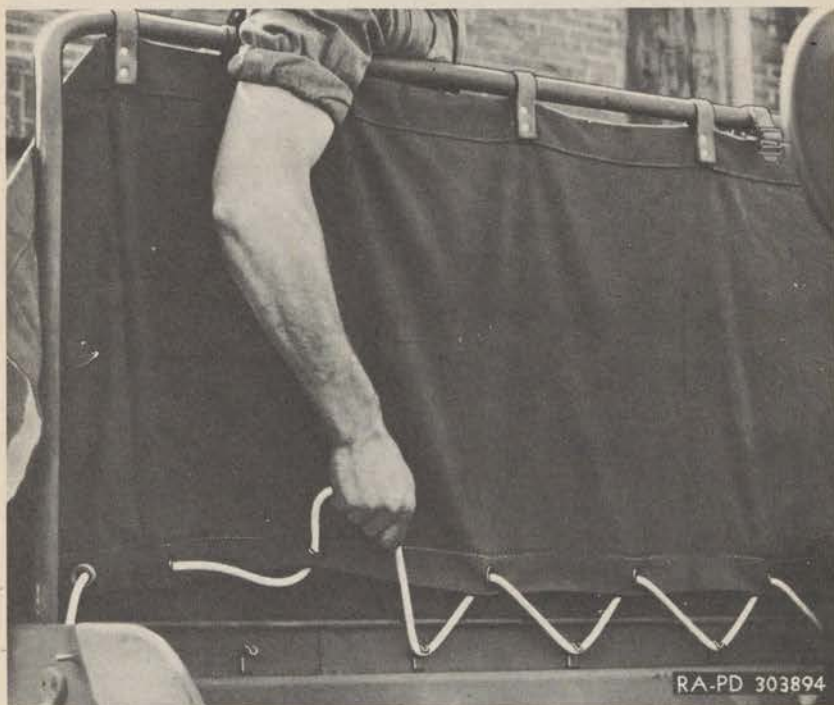

Figure 201—Lacing Rear Tarpaulin to Cab Rear Panel
(3) **ROLL UP REAR TARPAULIN.** Untie each end of the rope, lacing the back tarpaulin to the hooks along the top of the rear cab panel, then slip the rope loose from each hook (fig. 201). Disconnect the strap and loop fasteners holding the bottom corners of the tarpaulin to the
(2) **INSTALL CAB REAR TARPAULIN.** Unstrap the roll-up straps holding the rear tarpaulin to the top of the support tube, and unfold the canvas. Straighten the canvas out, and hook the loops in the rope laced through the bottom edge of the tarpaulin over the hooks on the inside of the cab rear panel. Pull the lacing rope tight and stretch the canvas taut (fig. 201). Then tie the ends of the ropes to the tarpaulin support tube. Pull the lower edges of the tarpaulin around the corners